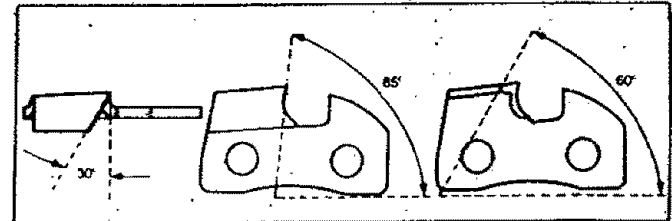

Figure 34
- f.) File 91 G chain to meet specifications shown in Figure 34.